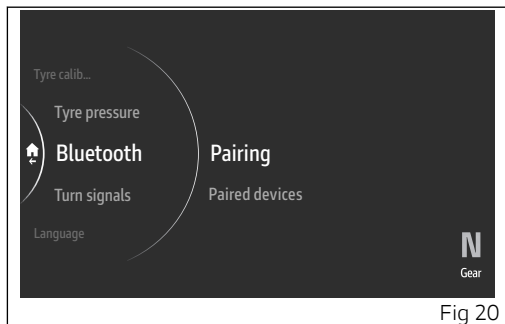

Fig 20
- Select the "Pairing" item and press ENTER (Fig 20).
- Select the "Paired devices" item and press ENTER (Fig 20).